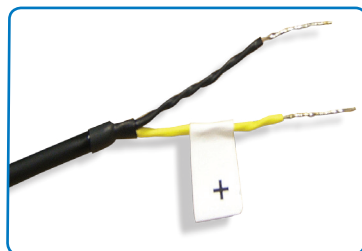

Figure 9
- Negative lead is not marked (Figure 9)